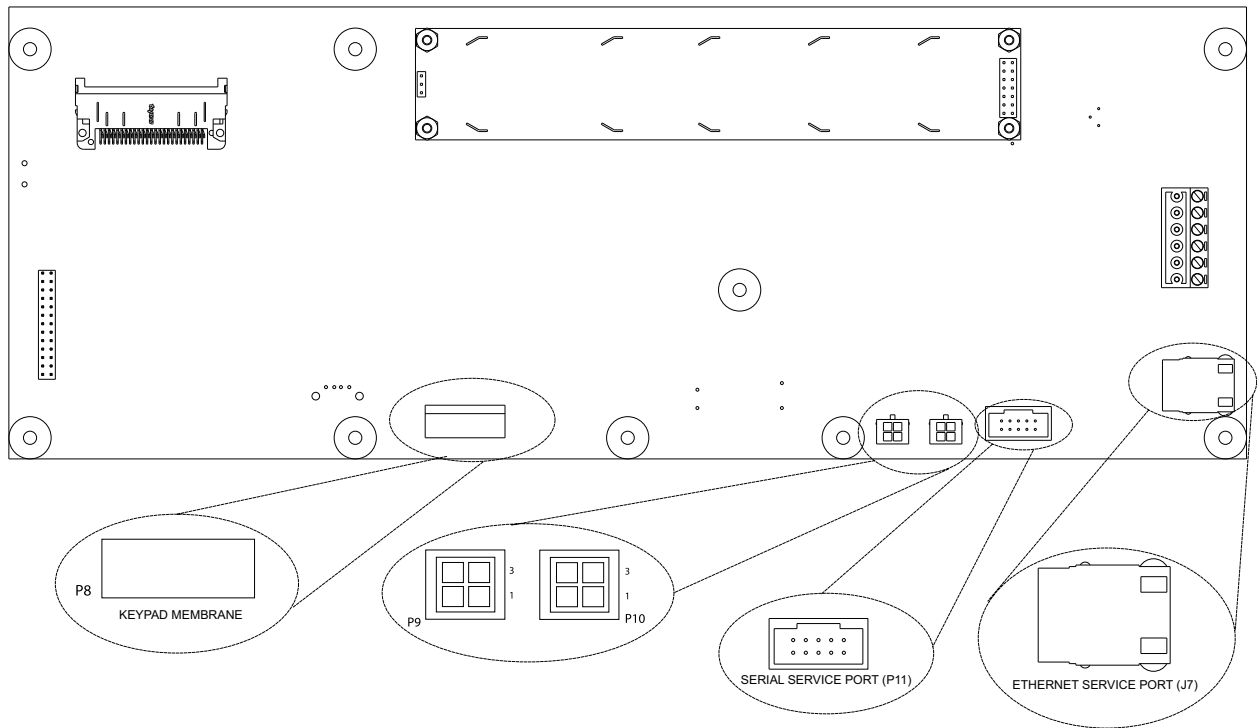
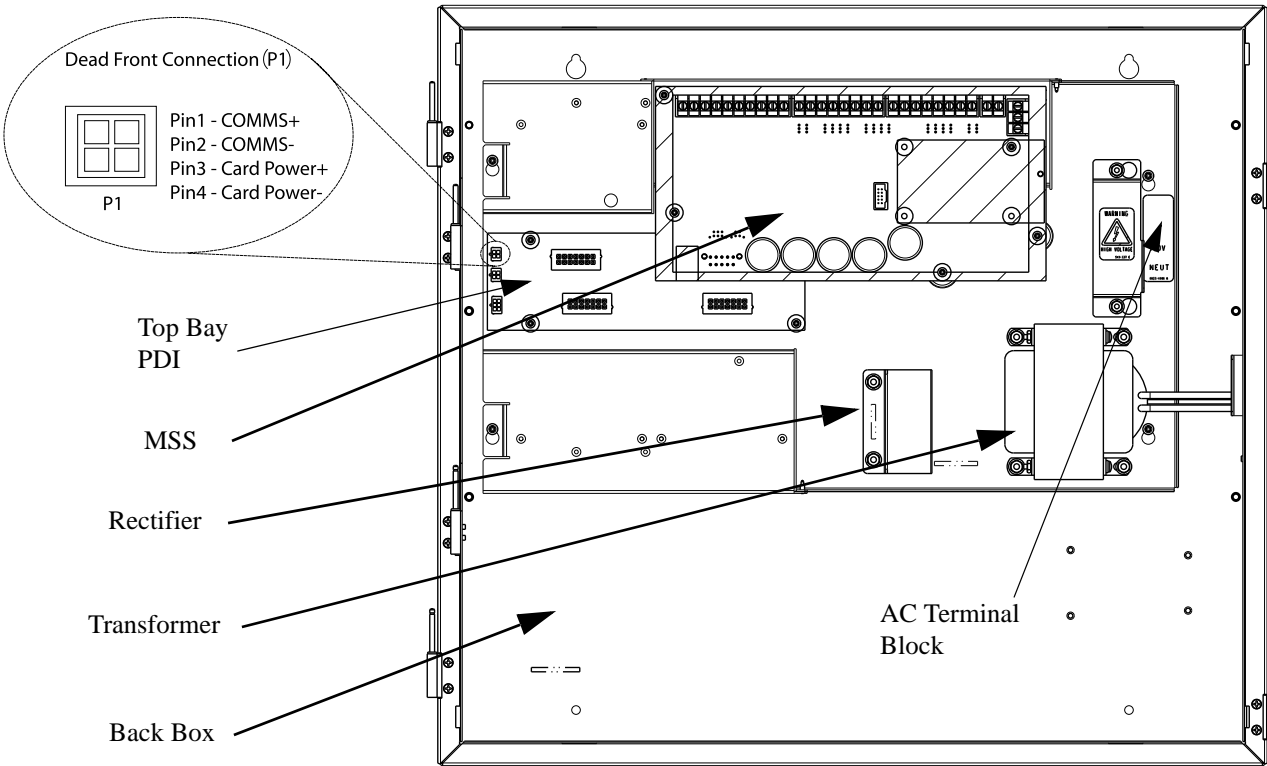
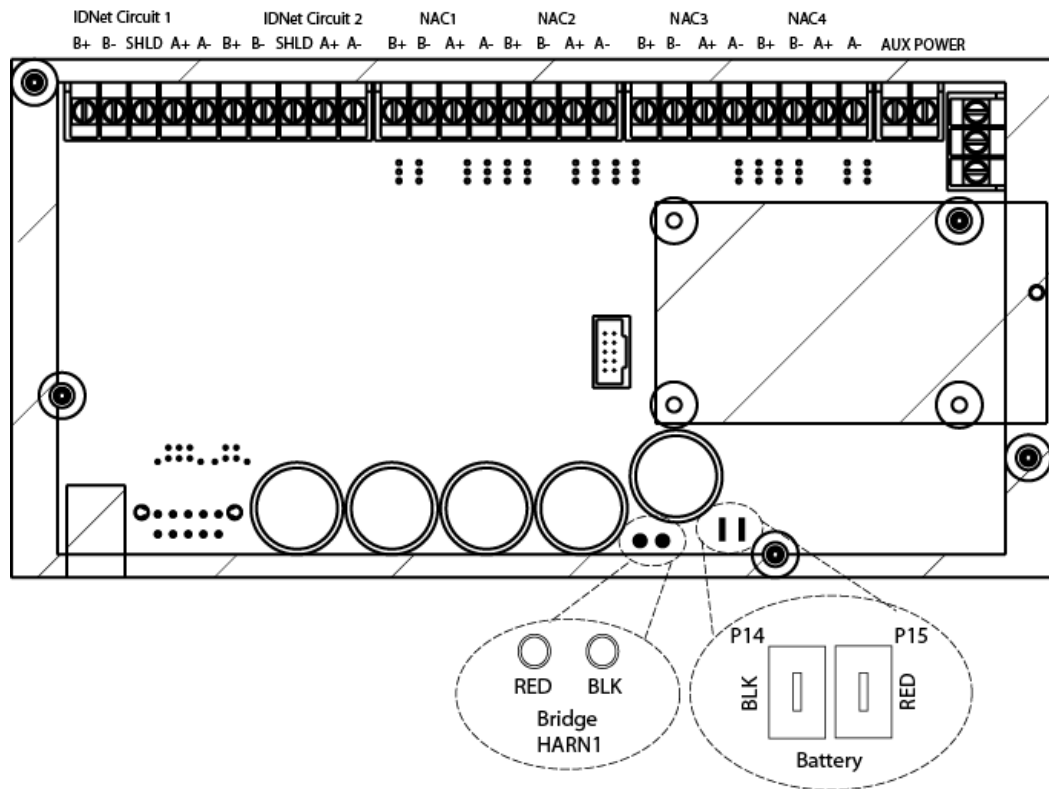

Figure 5-7. CPU card rear view
Figure 5-8. Top bay
Figure 5-9. MSS Bridge HARN1 connector
3. Attach the **Keypad Membrane** cable of the operator interface to port **P8** on the CPU card (Figure 5-7). To do so:
6. Connect port **P9** or **P10** of the CPU card to the **dead front connection (P1)** port on the top-bay power distribution interface (PDI) card (Figure 5-7 and Figure 5-8). Use the 734-008 4-pin connector harness provided.
3. Connect the rectifier to the **Bridge HARN1** connectors on the MSS (Figure 5-9). The red wire connects to the tab labeled “+” on the bridge. The black wire connects to the tab labeled “-” on the rectifier. See Figure 5-8 for the location of the rectifier.